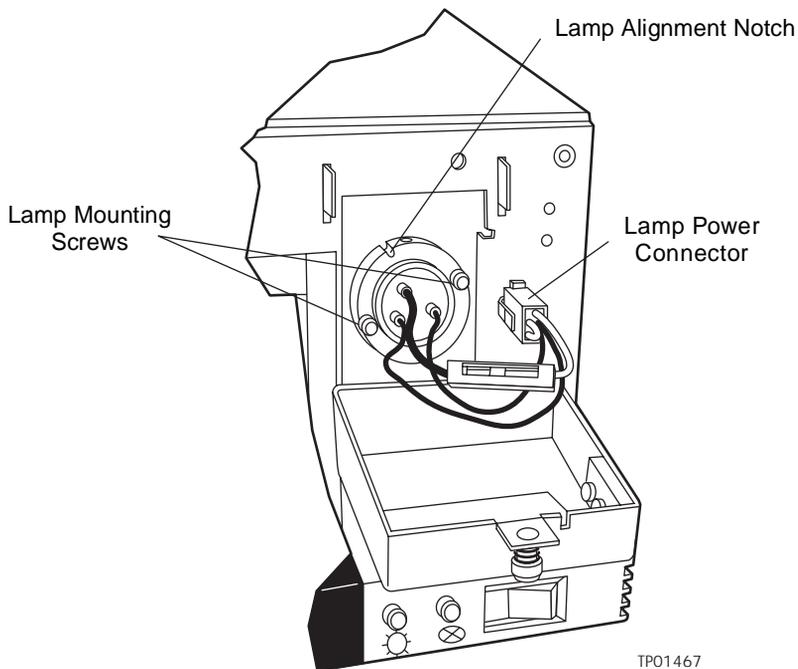

Figure 3-7 Lamp Power Cord and Mounting Screws
4. Disconnect the lamp power connector (Figure 3-7).
10. Reconnect the lamp power connector (see Figure 3-7).